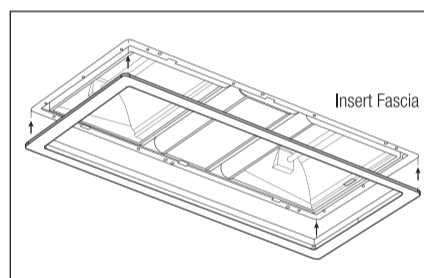

Fig. 10
- 4 Attach fascia onto the Tastic body (Fig 10).